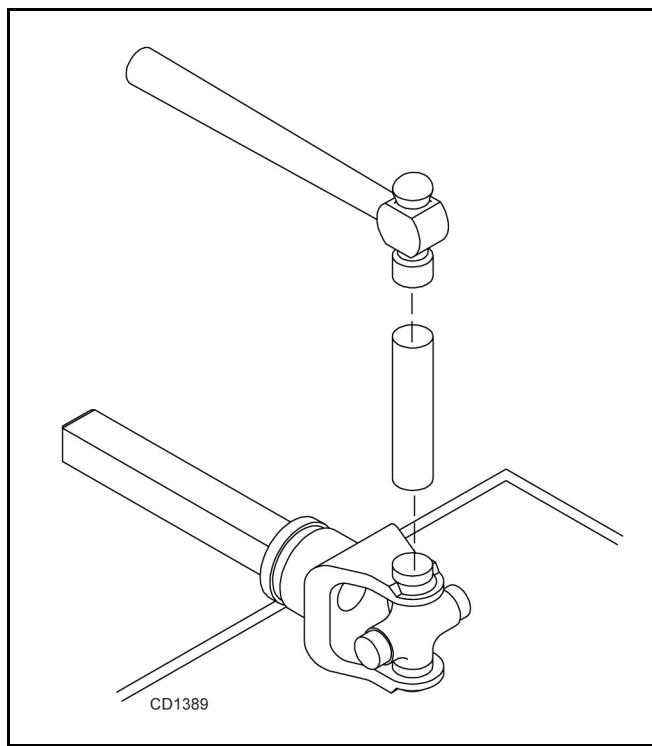

Figure 23
3. Seat cups by placing a drift or socket (slightly smaller than the cup) on cup and rap with a hammer. See Figure 23. Install snap ring and repeat on opposite cup.